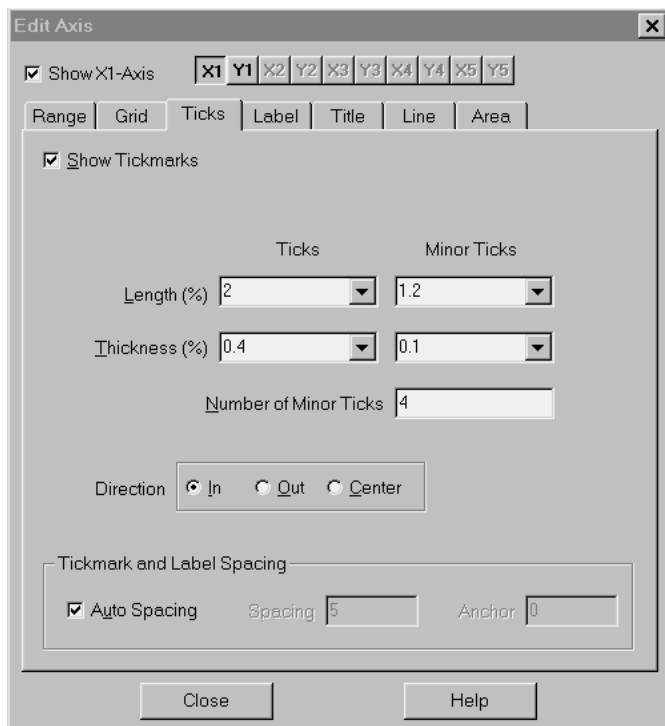

Figure 17-7. The Ticks page of the Edit Axis dialog.
2. Click Ticks (Ticks tab in Windows) to call up the Ticks page, shown in Figure 17-7.